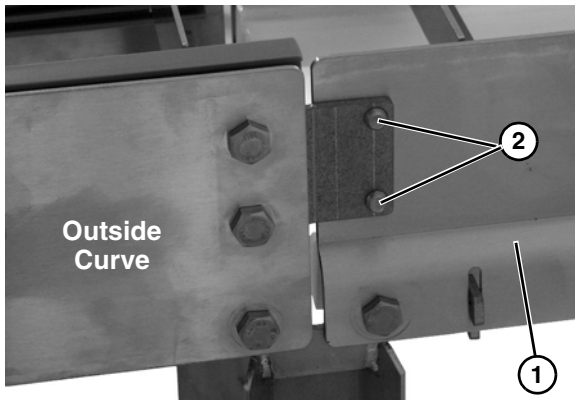

Figure 11
- Secure straight section (**Figure 11, item 1**) onto curved section with two hex head bolts (**Figure 11, item 2**) with bolt heads to the inside as shown.